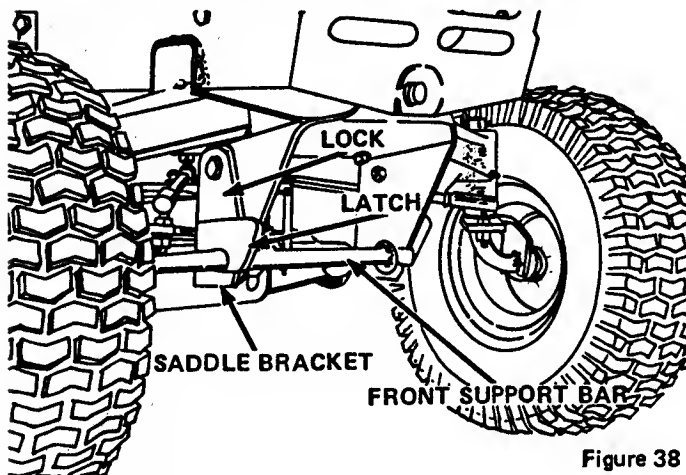

Figure 38
7. Position front support bar in the tractor saddle brackets and secure with the locks and latches, see Figure 38.